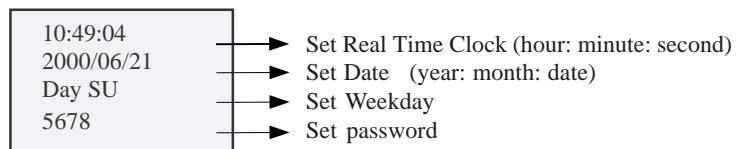

**Fig. 4.20**
2. Press → in the state shown in Fig 4.20, then the program will be read, block by block (in sequence as B01,B02....)
The SET Frame is shown in Fig. 4.20. A password and real time clock can be set for the edited FAB function program via this SET Frame. When you want to modify the control function, the said password shall be properly input before the editing modification status can be entered (note: the ex-factory password of FAB is 0001). This function is the password lock function of FAB.